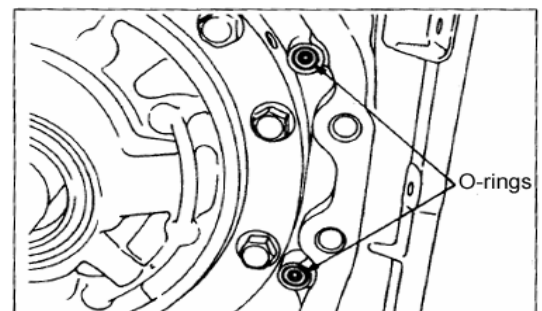

Fig 11A-21
- (23) Remove the differential and spacer. See Fig.11A-22.